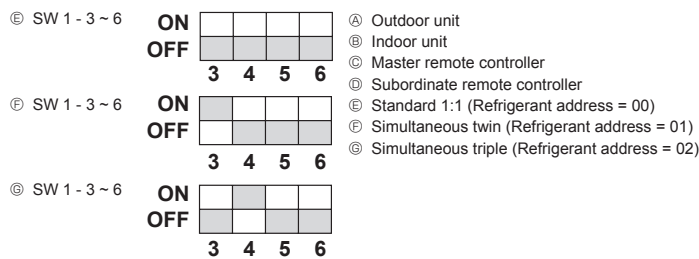

Fig. 9-1
① Supply power (circuit breaker).
② After the gas stop valve is closed, set the SW1-1 switch on the control board of the outdoor unit to ON. The compressor (outdoor unit) and ventilators (indoor and outdoor units) start operating and refrigerant collecting operation begins. LED1 and LED2 on the control board of the outdoor unit are lit.
③ Because the unit automatically stops in about 2 to 3 minutes after the refrigerant collecting operation (LED1 and LED2 are lit), be sure to quickly close the gas stop valve. When LED1 and LED2 are lit and the outdoor unit is stopped, open the liquid stop valve completely, and then repeat step ② after 3 minutes have passed.
④ Turn off the power supply (circuit breaker).
9. System control (Fig. 9-1)